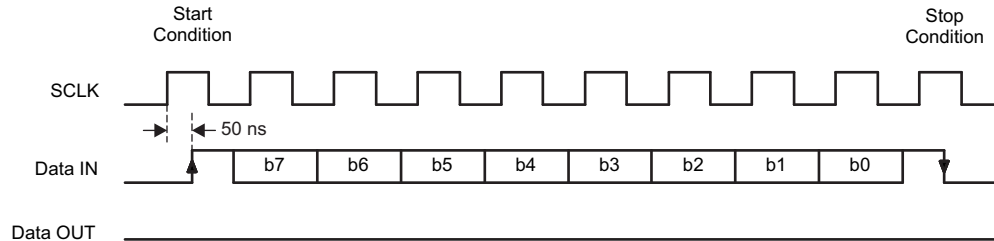

Figure 6-9. Serial – SPI Communication (No SS\* Pin)
- (a) When using slave select (SS), set the SS bit low.
- (b) When not using SS, the start condition occurs when SCLK is high (see Figure 6-9).
- (a) When using slave select (SS), set the SS bit high.
- (b) When not using SS, the stop condition occurs when SCLK is high (see Figure 6-9).